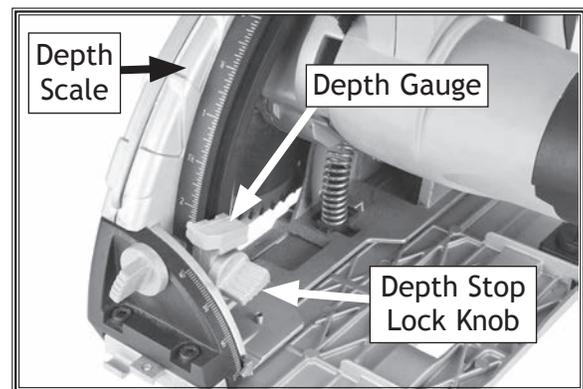

Figure 15. Depth-setting components.
1. Loosen the depth stop lock knob and adjust the depth gauge along the scale to the maximum depth desired for the cut (see **Figure 15**).